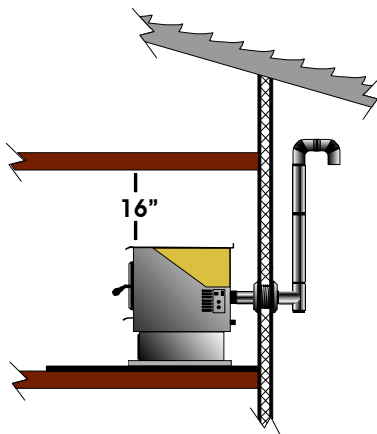

Figure 20
- 🔥 **HORIZONTAL, OUT THE WALL, THEN VERTICAL** to a minimum of 5 feet, into a 90-degree elbow and terminating with a 45-degree elbow pointed downward. Figure 20.